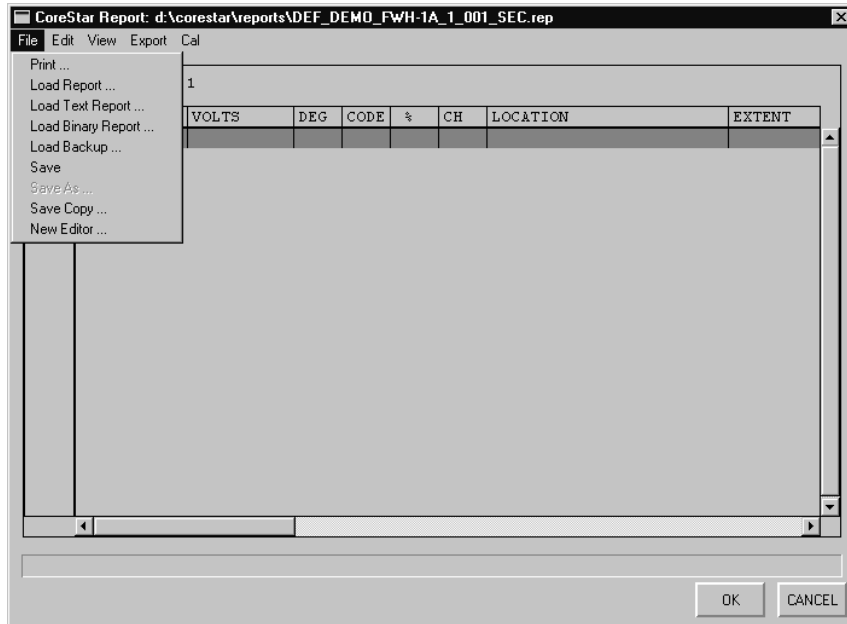

Figure 3-56. File Menu on Report Editor Dialog
Figure 3-56 shows the contents of the **REPORT > File** menu. Each selection on this menu is discussed below.
- ❑ **REPORT > File > Save As ...:** As shown in Figure 3-56, **Save As ...** on the **File** menu is normally *grayed-out* and not selectable for the present eddy current report. This is intentional in order to avoid the report file name being changed to another naming format that the software will not recognize. The **Save As ...** function is enabled when setting up the report header, footer, probe change, shift change, etc. macros (*see **REPORT > Edit > Macros ...** later in this section*).